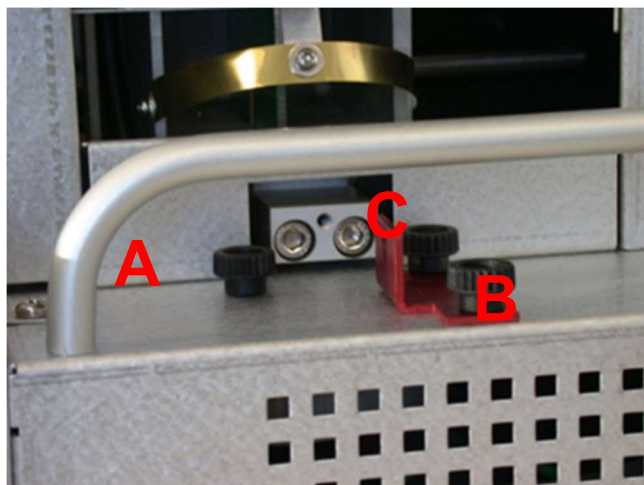
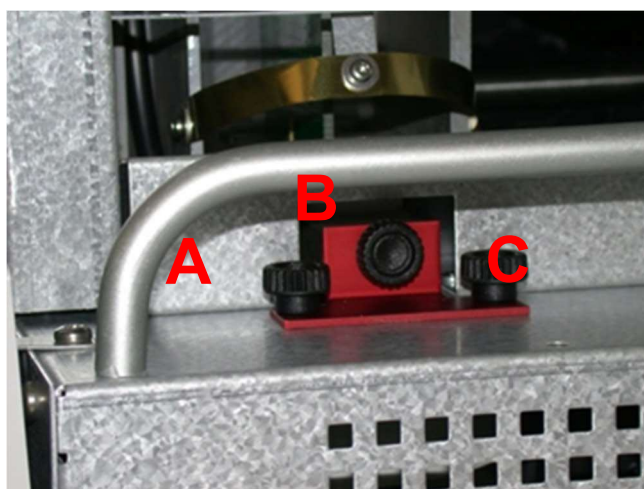

Figure 3A. Thumbscrew configuration of transport lock #2 in unlocked position.
Figure 3B. Thumbscrew configuration of transport lock #2 in locked position.
- 7.6.3 Transport lock #2: Remove thumbscrews A and B, and loosen C (Figure 3A). Shift the red bracket to the locked position (Figure 3B). Tighten screw C, replace screw A in original position, and place screw B in the locked position. Ensure all thumbscrews are snug but not tight.